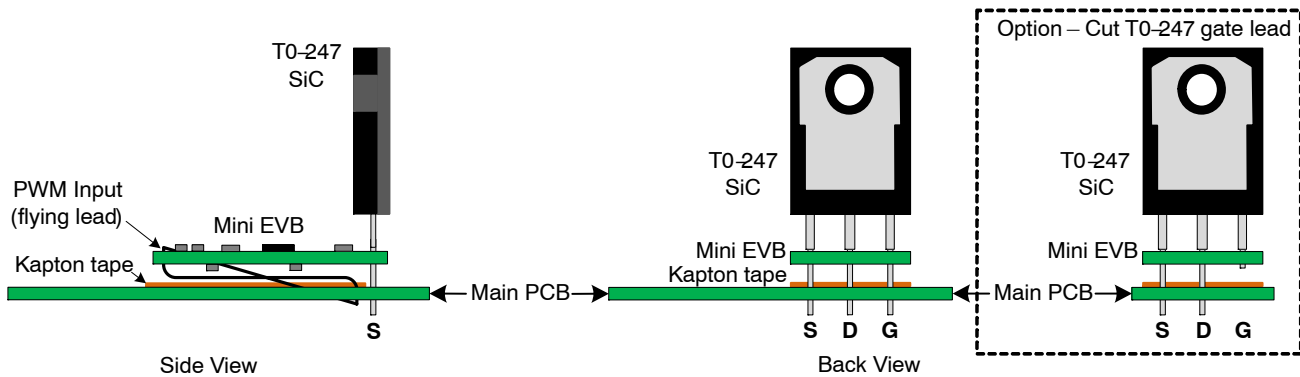
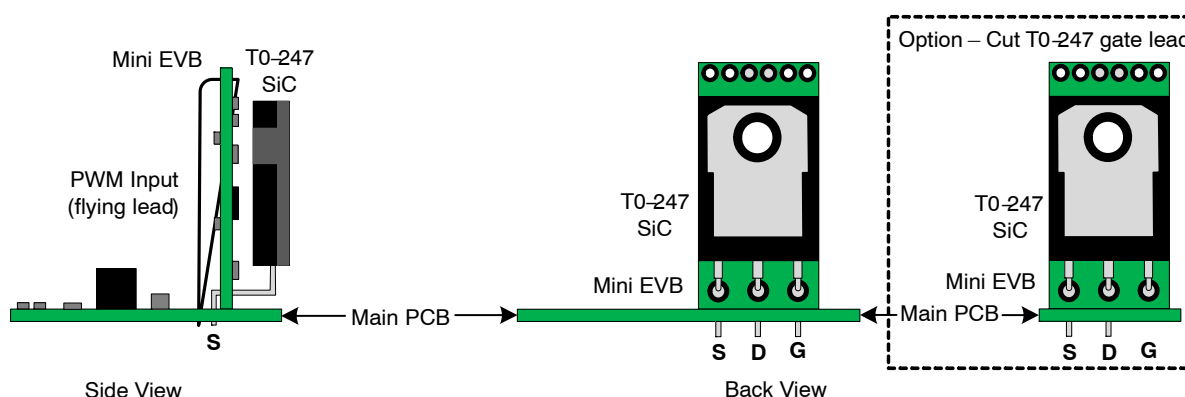

Figure 10. Mini EVB Installation – Option 1
Figure 11. Mini EVB Installation – Option 2
The NCP51705, SiC Driver Mini EVB can be mounted into an existing power board, shown as “Main PCB” in Figure 10. If there are no components or low profile surface mount components only, the mini EVB can be mounted parallel to the main PCB as shown in Figure 10. The T0–247, SiC MOSFET leads would pass through the mini EVB
plated thru–holes and into the main PCB. Or, if necessary, the gate lead of the T0–247, SiC MOSFET can be soldered to the plated thru–hole on the mini EVB and cut so that it does not contact the main PCB, as shown in the dotted box in Figure 10. For mechanical strength, it is preferred that the T0–247 gate lead pass through both PCB’s.
If components mounted on the main PCB interfere with mounting the mini EVB as described by Option 1 (Figure 10), the T0–247 leads can be formed (lead length may need to be added) with the mini EVB mounted perpendicular to the main PCB as shown in Figure 11, option 2. If required, both mounting options allow the application of a heat sink to the T0–247 package. If high dV/dt is present on the drain of the T0–247, the EVB should be angled, away from being parallel to the T0–247, as much as possible.
7. Make appropriate modifications to lead form the T0-247 leads as shown in Figure 11. If the T0-247 leads are not long enough to provide sufficient clearance between the mini EVB and T0-247 case and allow the leads to pass through the mini EVB and down through the main PCB, then extending the lead length may be necessary.